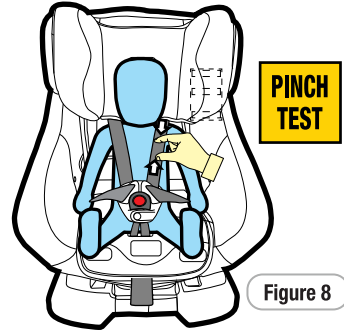

Figure 8
**Step 6:** Check the harness tightness by the **PINCH TEST**, this is achieved by pinching the harness webbing at the shoulders (refer Figure 8).